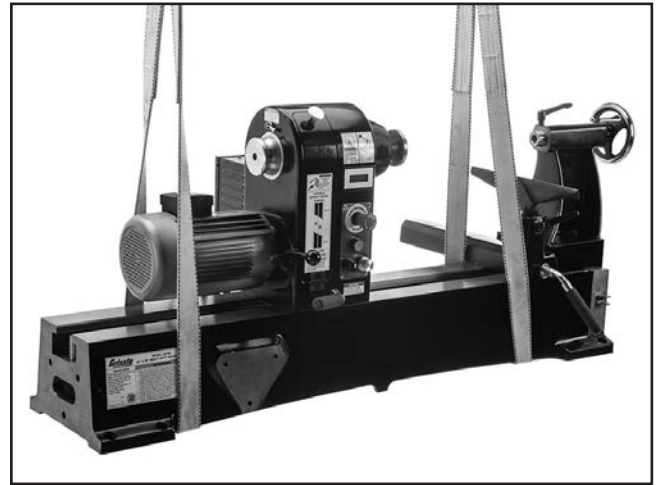

Figure 18. Lifting lathe with straps properly positioned.
7. Wrap lifting straps around bedway (see **Figure 18**), with one strap at each end. Straps should be positioned next to bedway mounting points to maintain best balance.